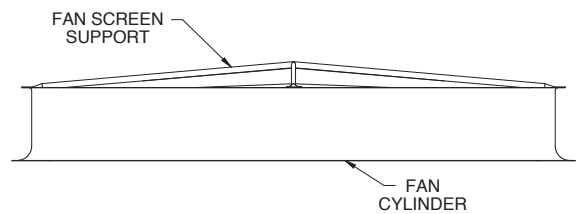

Figure 13 – Support Frame Installation
2. The fan screen is supported from underneath by an "X" shaped support frame. Set the support frame across the top of the discharge cylinder (See Figure 13), and fasten to cylinder with 3/8" (10 mm) bolts.